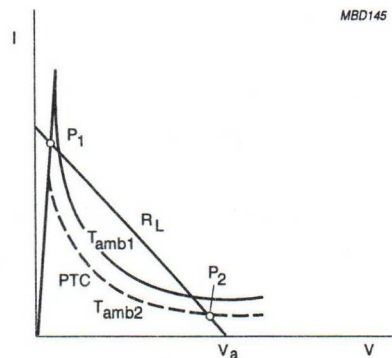

Fig. 8 PTC thermistor in series with a load showing the influence of the ambient temperature.
2. The ambient temperature increases (see Fig.8)
Remark: When the temperature of the PTC thermistor is greater than T_s (i.e. the thermistor is in its tripped state), the thermistor will heat up causing the ambient temperature to increase (see Fig.8). This must be taken into account when calculating the value of the load resistance (i.e. the resistance of the PTC thermistor).